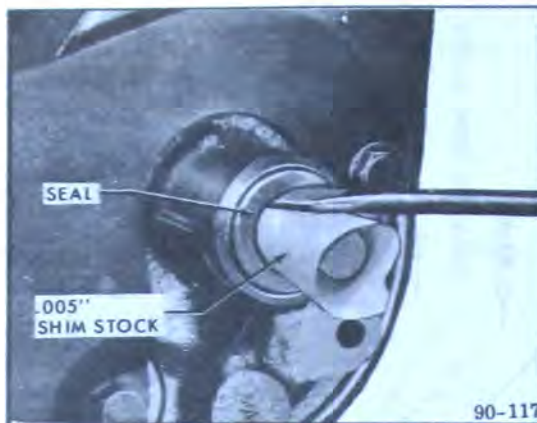

Figure 90-63 Removing Oil Pump Shaft Seal
push it past seal until it bottoms in pump housing. See Figure 90-63.
6. Remove seal by cutting metal body of seal with a sharp tool and prying out. See Figure 90-63. Extreme care must be used to prevent damage to shaft and pump housing.